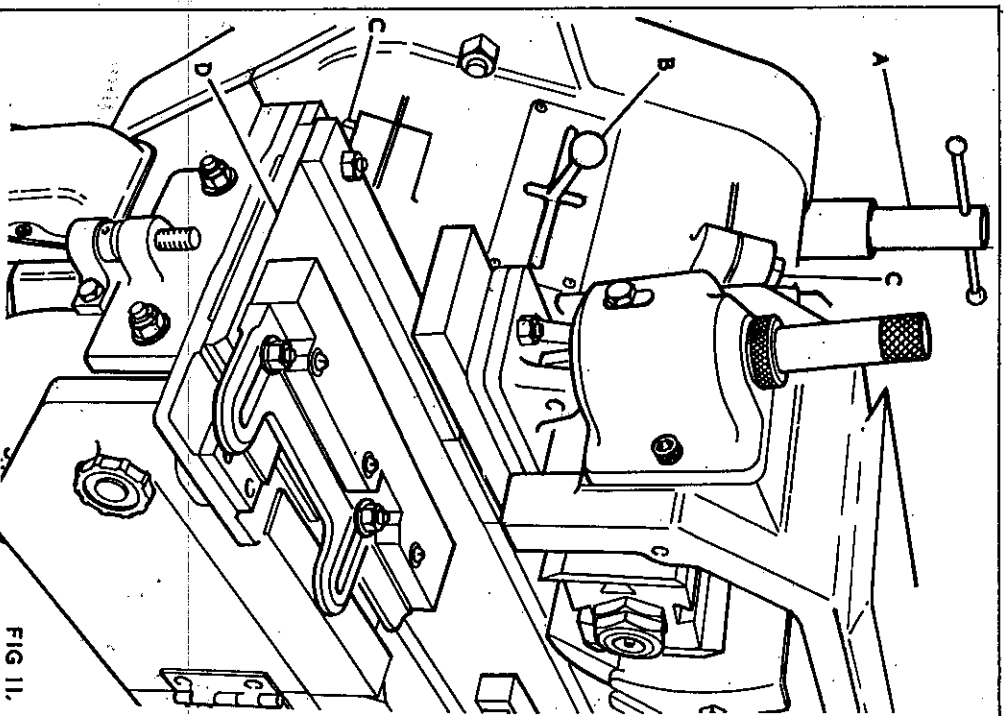

FIG 11.
Vertical adjustment to the head is by the handle "A" in fig. 11 and lateral adjustment of $\frac{1}{2}$ " (13mm) by the lever "B". The vertical movement of the head is locked in any position throughout its travel by means of the two ball lever screw "A" in fig. 12 and the lateral movement is locked by the hexagon nuts "C" in fig. 11 depending whether the head is being used as a top or bottom head.
1. Remove cutterblock, belt guard at rear of head assembly, and the belt. Unlock hexagon head bolts "C" in fig. 11.
4. Replace the dummy quill "C" in the position which is not being used and push up to the stop. Make sure that handle "B" in fig. 11 is in the vertical slot and away from the position in which the dummy quill is being fit.